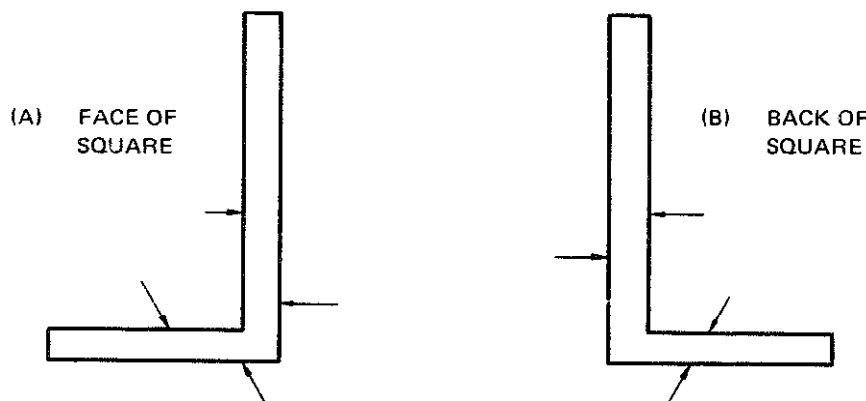

Fig. 3-18 Inch graduations on a rafter and framing square
2. In figure 3-18, indicate the inch graduations found on the rafter and framing square.